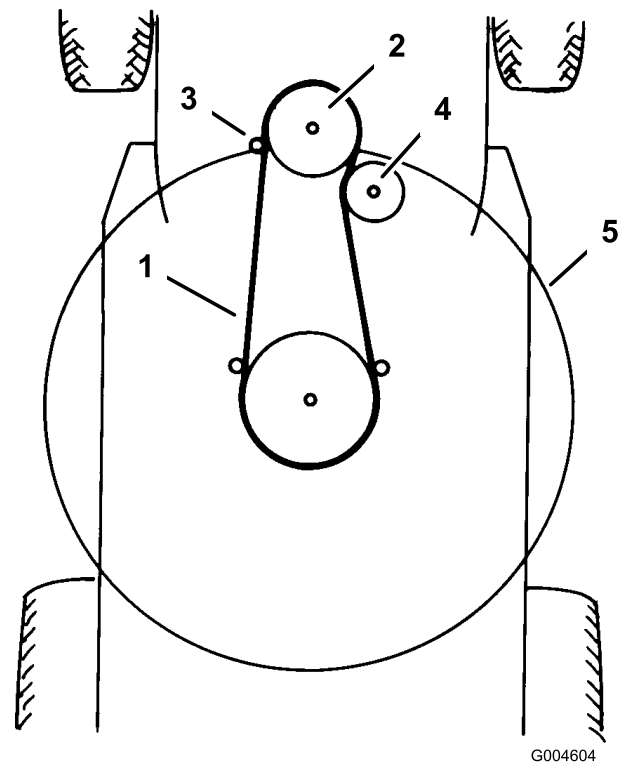

Figure 40
18. Remove the mower belt from the lower engine pulley (Figure 40).
10. Install the mower belt onto the lower engine pulley (Figure 40).